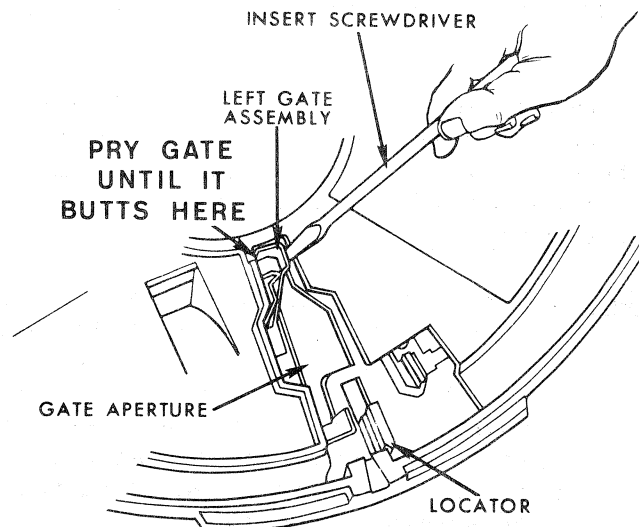
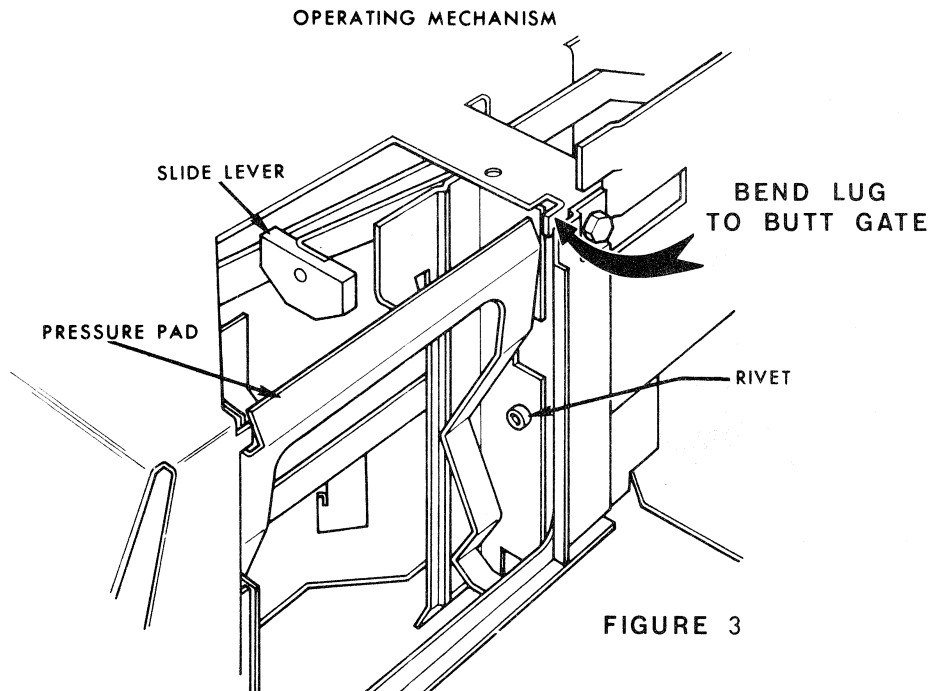

FIGURE 2
FIGURE 3
4. Insert a flat-blade screwdriver between the front edge of the LEFT GATE ASSEMBLY and the top of the main projector housing, as shown in Figure 2. Move the screwdriver handle toward the front of the projector to pry the top of the GATE ASSEMBLY toward the rear of the projector. Pry the assembly until it touches the housing casting at the point indicated in the diagram. The prying action will cause the GATE ASSEMBLY to pivot on the RIVET (Figure 3). When the screwdriver is withdrawn, the GATE ASSEMBLY will spring back slightly.
6. Turn the projector upside down, open the lamphouse door, and remove the front condenser lens, the heat-absorbing glass and the lamp. Locate the LUG (indicated by the heavy arrow in Figure 3 immediately to the right of the cover assembly lip as you look toward the front of the projector). Bend the LUG in the direction shown by the arrow, until it just touches the GATE ASSEMBLY. This can be accomplished by placing the end of a screwdriver against the LUG and tapping the handle lightly with a small hammer. It will ensure that the GATE ASSEMBLY will not easily slip out of alignment again.